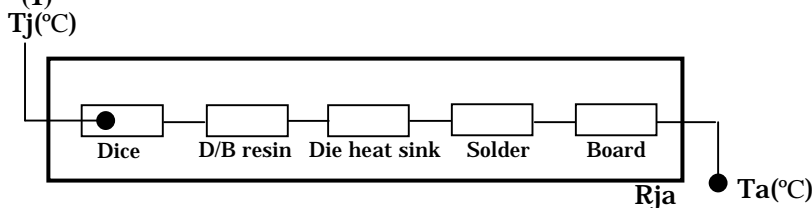

Fig.2 The thermal circuit indicates the thermal resistance from the ambient temperature (T_a) to the dice.
In Fig.2, the thermal resistance from T_j to T_a is defined as R_{ja} ($^{\circ}C/W$). T_j is expressed by Equation (1). (W is power consumption (W).)